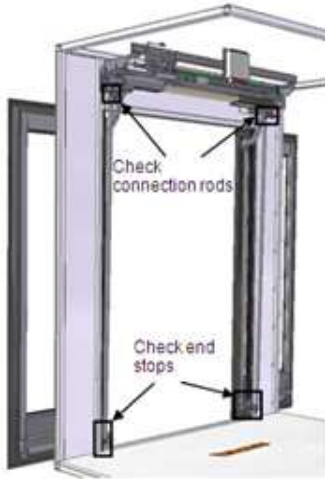

Figure 1.14: Location end stoppers
1.	Put the door leaves in open position and check if the roller of the door shaft support touches the end of the guiding rail. If not the door leaf doesn't swing fully open at the bottom. This can be adjusted with the connection rods (See figure 1.14)